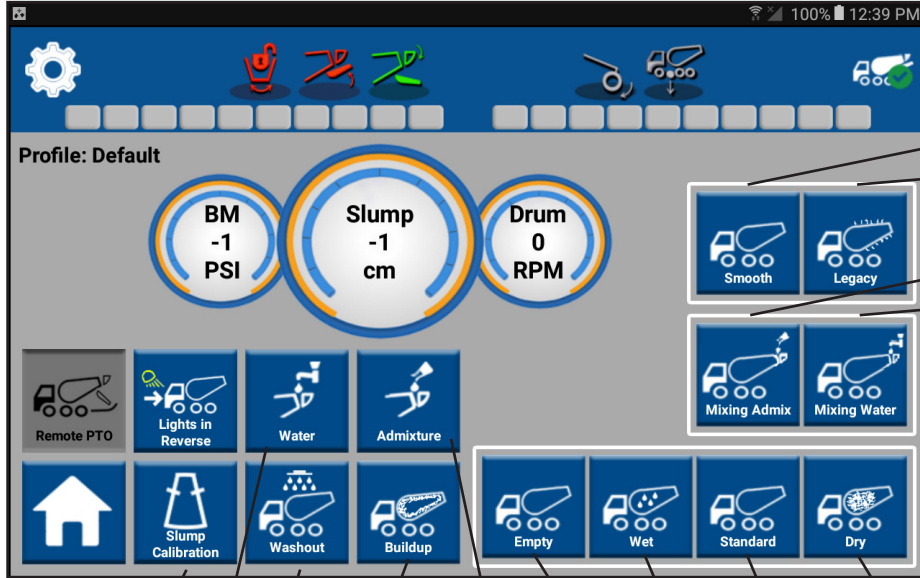

Figure 20
- Empty (Figure 20, Item 1). Spins the drum at 1 RPM in Constant Speed.
- Wet (Figure 20, Item 2). Spins drum at 5 RPM Low Constant Speed and 12 RPM High Constant Speed.
- Standard (Figure 20, Item 3). Spins drum in two configurable constant speeds (Low: 1-3 RPM; High: 3.1-7 RPM).
- Dry (Figure 20, Item 4). Spins the drum at 1.5 RPM in Constant Speed.
- Mixing Admix (Figure 20, Item 5). Throttles up the truck to mixing speed and mixes for 30 revolutions before returning to Constant Speed.
- Mixing Water (Figure 20, Item 6). Throttles up the truck to mixing speed and mixes for 70 revolutions before returning to Constant Speed.
- Smooth (Figure 20, Item 7). Allows drum to transition to new direction/velocity with dampening to minimize wear. This is the recommended operating mode.
- Legacy (Figure 20, Item 8). Allows quick transition (faster transition than “Smooth”) to new direction/velocity without dampening.
- Admixture (Figure 20, Item 9). Allows addition of prescribed amount directly into drum, and record amount added and time of addition.
- Buildup (Figure 20, Item 10). Starts a buildup test on the drum to determine if there is ~2000 lbs. of buildup. The system performs the drum test controlling the drum for approximately one minute. The system then prompts the operator: No buildup detected; Test conditions not met; Possible buildup. Test should be performed on a regular schedule for the most accurate reading. Revolution recommends once daily.
- Washout (Figure 20, Item 11). Allows selection of up to 4 washout zones. Each zones will wash for predetermined set of time.
- Water (Figure 20, Item 12). Allows addition of prescribed amount of water directly into the drum, records amount added, and time of addition.
- Slump Calibration (Figure 20, Item 13). This screen is used to load and save slump calibrations. These values are used for the inch readouts for the Slump gauges used on the Drum and Slump screens. See 11.12 Concrete Slump Meter and 11.12.2 Setting the Digital Concrete Slump Meter for INSIGHT System Only for more information.